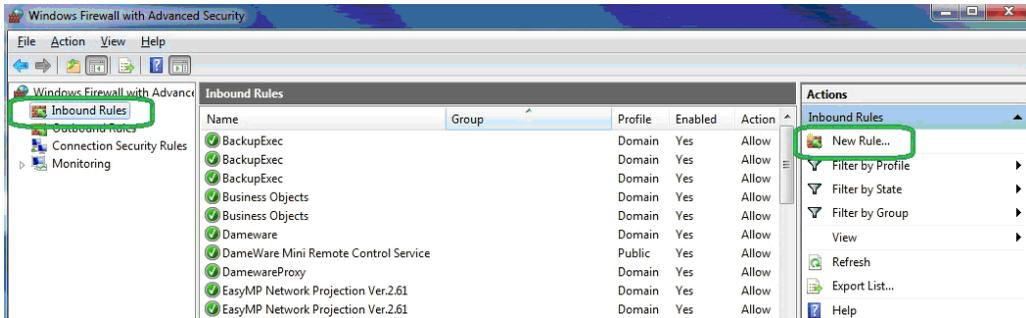

FIGURE 2-37 Windows® Firewall with Advanced Security - New Rule
Step 4 On the Windows Firewall with Advanced Security screen, click **Inbound Rules**, as shown in FIGURE 2-37.
Step 5 Click **New Rule...**, as shown in FIGURE 2-37.